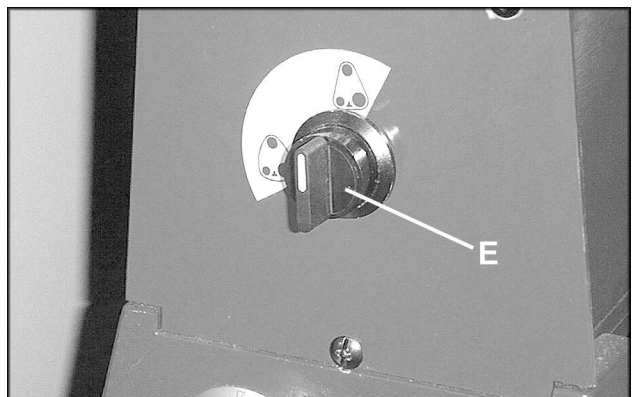

FIGURE 10
5. Turn the sanding belt tension switch (E, Fig. 10) clockwise, so that the white indicator on the switch is in the UP position. With this done, the operator should hear the sound of air on the tracking cylinder.